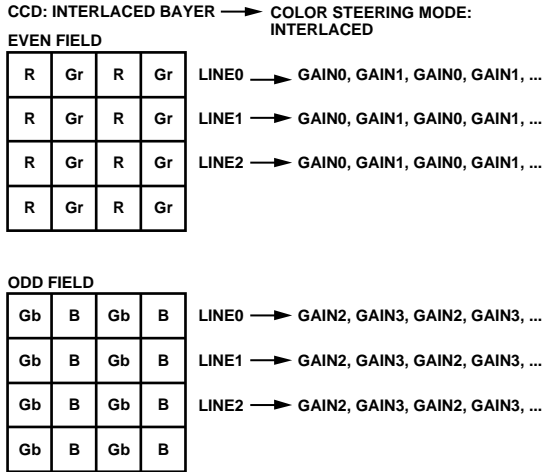
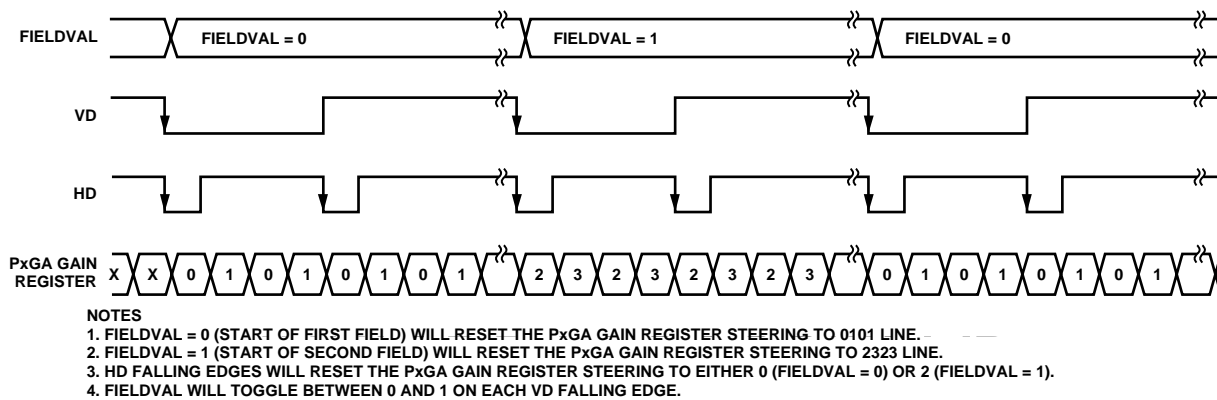

Figure 31. CCD Color Filter Example—Interlaced Readout
Figure 34. PxGA Color Steering—Interlaced Mode
The same Bayer pattern can also be interlaced, and the interlaced mode should be used with this type of CCD (see Figure 31). The color steering performs the proper multiplexing of the R, G, and B gain values (loaded into the PxGA gain registers) and is synchronized by the user with vertical (VD) and horizontal (HD) sync pulses. For timing information, see Figure 34.